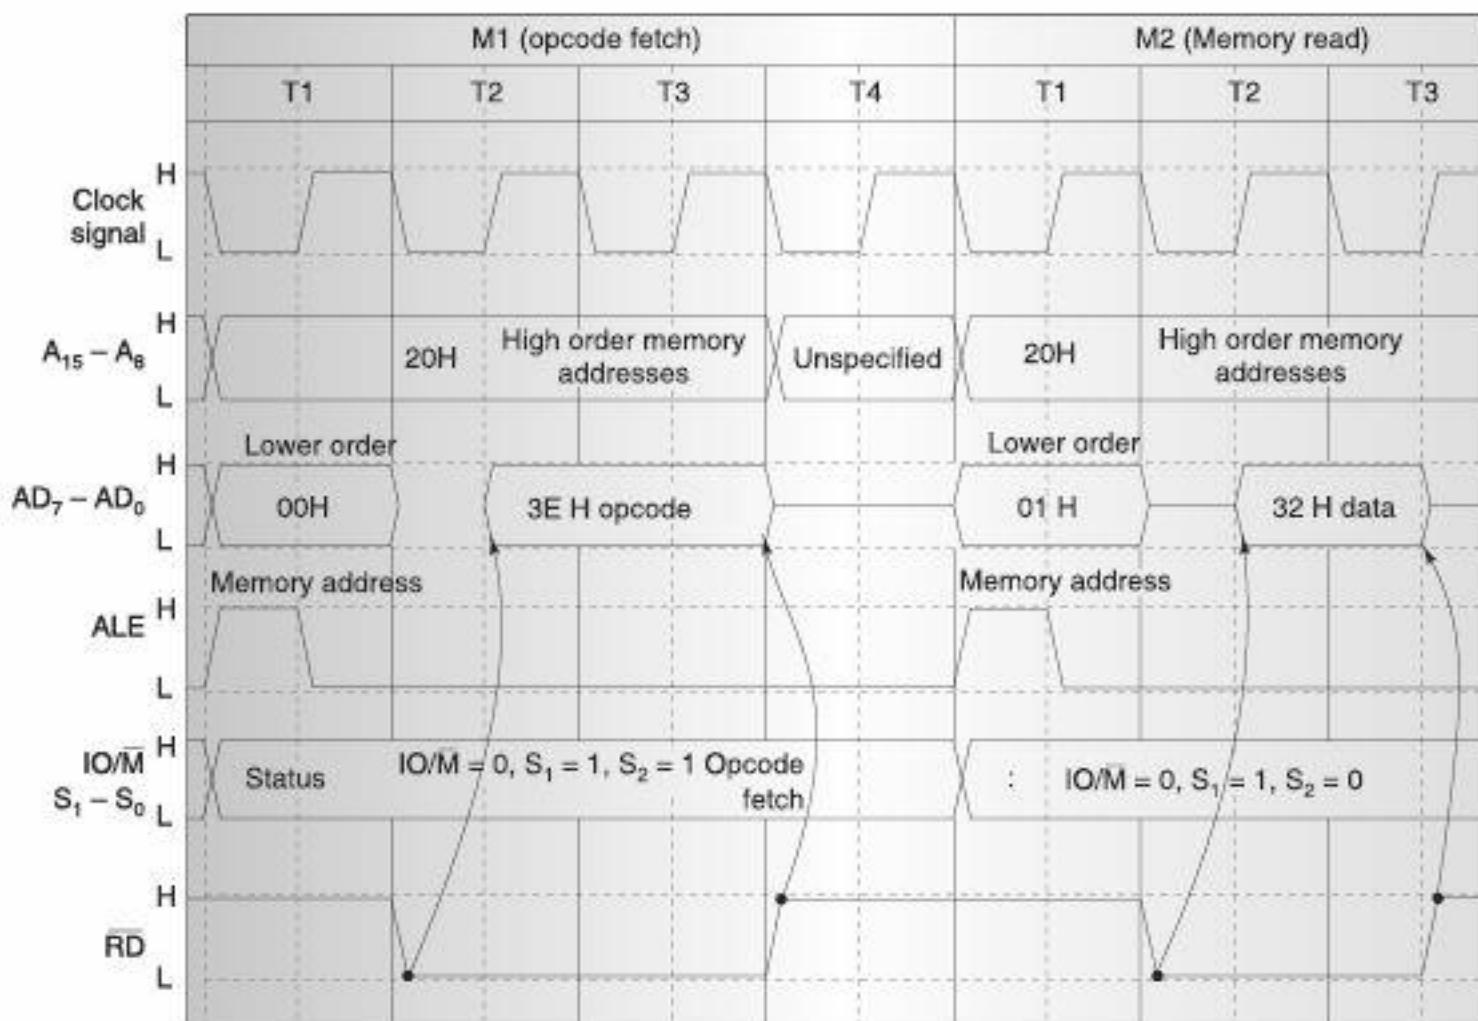

Fig. 3.6 Timing of the Instruction MVI A, 32 H.
**Solution:** This instruction consists of two bytes; the first is the opcode and the second is the data byte. The 8085 needs to read these bytes first from memory and thus requires at least two machine cycles. The first machine cycle is Opcode Fetch and the second machine cycle is Memory Read, as shown in Figure 3.6; this instruction requires seven T-states for these two machine cycles. The timings of the machine cycles are described in the following paragraphs.